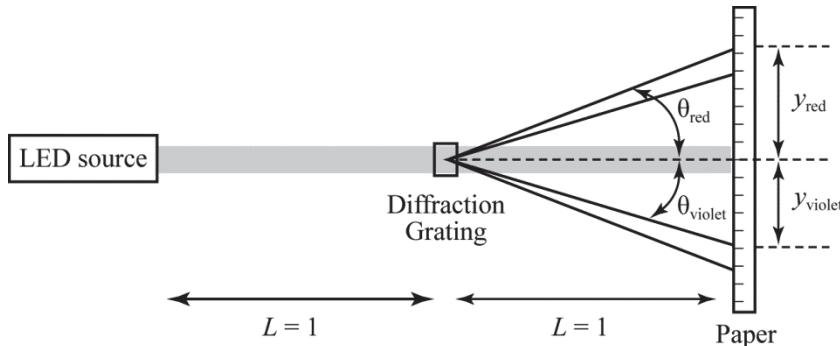

Figure 44 – LED Flashlight Diffraction Grating
2. Mount a 1.5" post holder (LI-4) onto a mounting base (LI-7). Mount a dual filter holder (LI-6) onto a 1.5" post (LI-5). Secure the 1.5" post into the 1.5" post holder on the mounting base. Place the diffraction grating (LI-8) into the dual filter holder. Place the mounting base with the diffraction grating assembly exactly 1 meter from the wall. 1 meter will be the length, L, for performing calculations in Step 6. See Figure 44.
6. Using the metric ruler (LI-9), measure the distance “ y_{violet} ” from the center of the grating to the violet end of the spectrum as shown in Figure 44 and record this value for “ y_{violet} ” in the “Grating” part of Table 34. Likewise, measure and record the distance between the center of the grating and the red end of the spectrum. Record this value for “ y_{red} .” Use 1 meter for “ L .” Calculate and record “ θ_{violet} ” for the violet end of the spectrum and “ θ_{red} ” for the red end using the formula in Table 34.